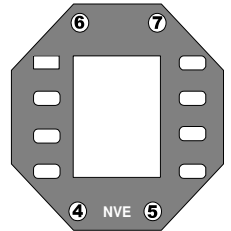

Figure 1.
**AG914-06**—This PCB is designed to mount an AKL-Series digital output sensor in the SOIC8 package. Four connections are available to the PCB: VCC (Input Voltage, Pin 6), GND (Ground, Pin 5), B+ (Bridge Out +, Pin 4), and B- (Bridge Out -, Pin 5). The bridge outputs are provided for interest only, since this is a digital output sensor. Figure 1 shows the PCB connections.